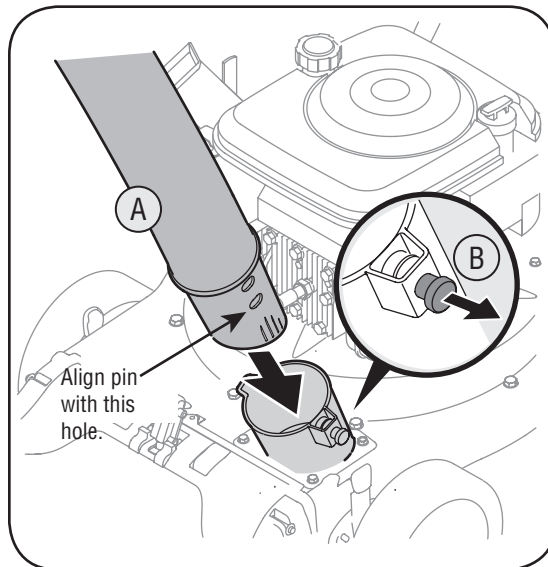

Figure 3-5
5. a. Slide hose adapter of hose assembly into the base adapter located on the left front of the Yard Vacuum. See Figure 3-5.